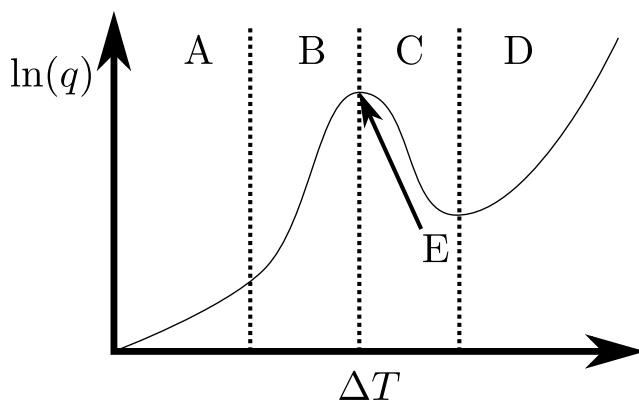

Figure 28: A typical boiling heat flux versus driving temperature difference curve.
- 11) Which region of the boiling curve in Fig. 28 is the nucleate boiling regime? [2 marks]
- 12) Which region of the boiling curve in Fig. 28 is the radiative boiling regime? [2 marks]
- 13) Which region of the boiling curve in Fig. 28 is the operation of the boiler unstable? [2 marks]